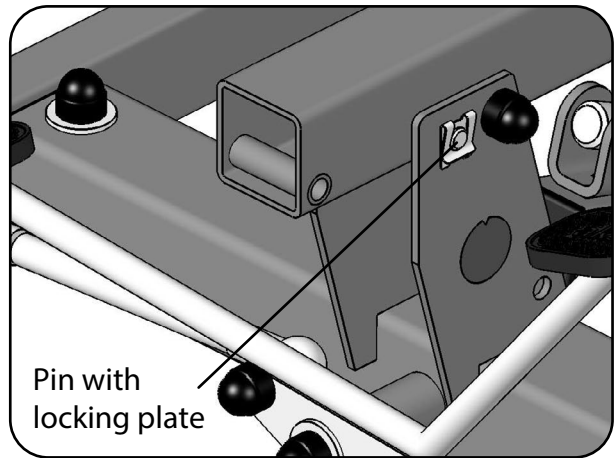

Fig.13.2.04 – Stand mast holder
5. Finally, lock the stand mast in place with the pin and the locking plate on the stand mast holder (Fig. 13.2.04).